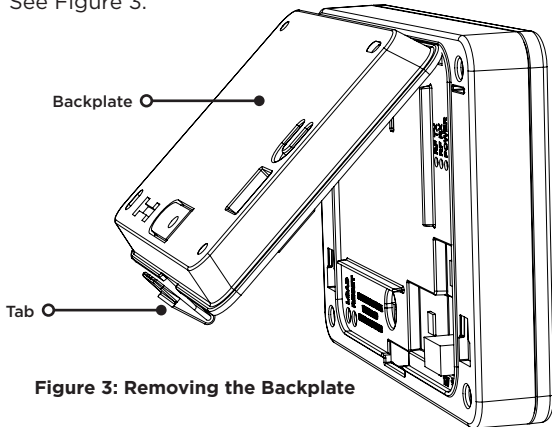

Figure 3: Removing the Backplate
1. Press the tab and remove the backplate from the XTLtouch. See Figure 3.